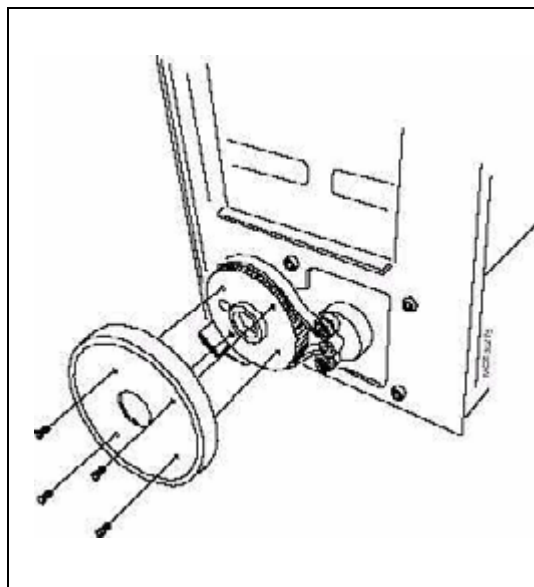

Fig. 2:
- Remove the hub cap first and then the wheel (Fig. 2 / p. 26).